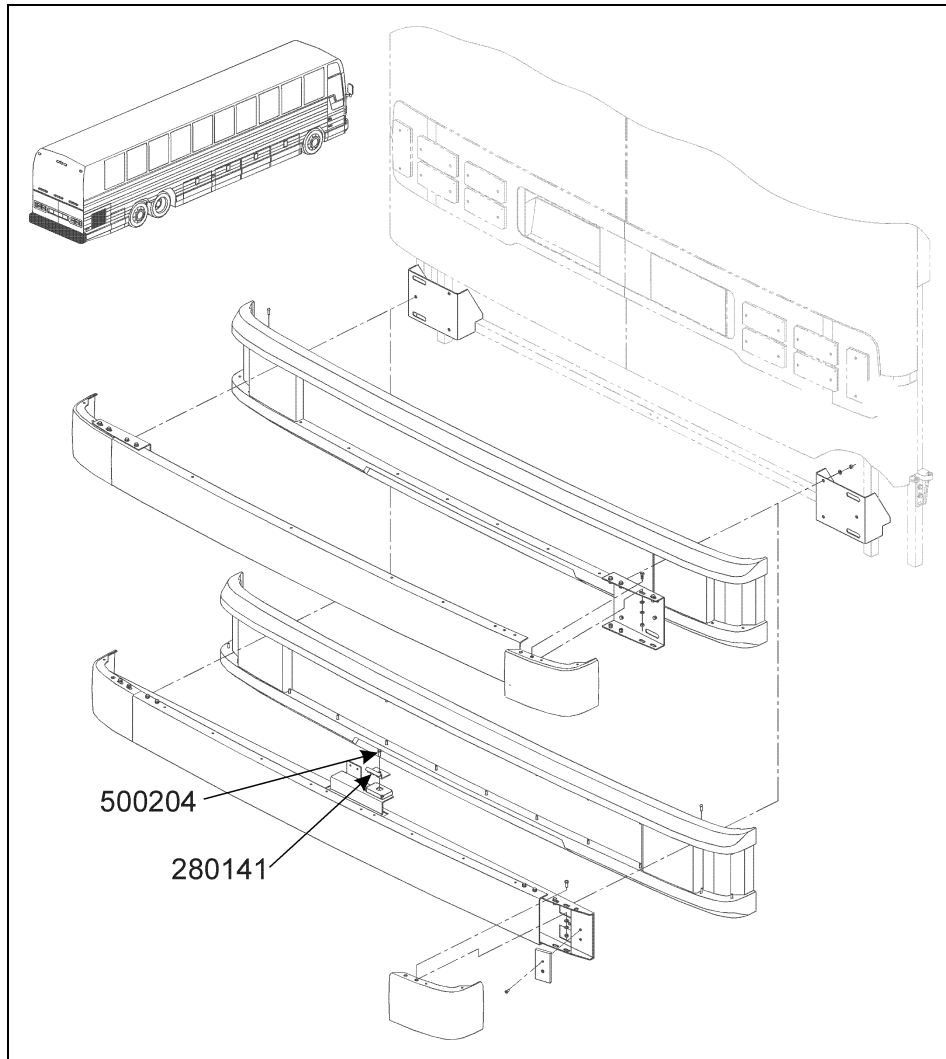

FIGURE 5: LOCATION OF "Z" PLATES
12. Install two "Z" plates (280141) in place of the pin strikers (refer to figure 5).